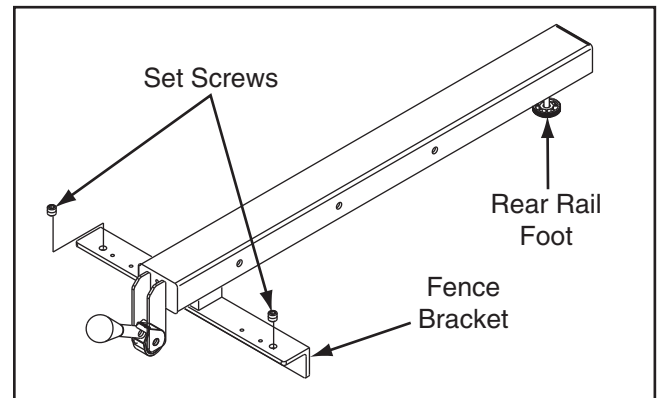

Figure 136. Fence components used to adjust fence height and squareness to table.
3. Adjust the set screws (**Figure 136**) on top of the fence bracket to ensure the fence face is 90° to the table.
Note: If the front end of the fence needs to be adjusted up or down, use the set screws from **Figure 136**; however, turn them in even increments and recheck the squareness afterwards.